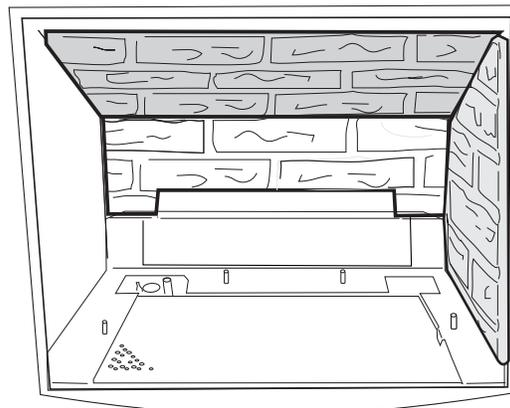

Figure 44. Install the Upper and Side Panels.
- 6. Install one of the Side Panels,** pushing it up against the firebox wall. Fig. 44
- 7. Position the Upper Panel.** You should seat the Upper Panel down and forward so that no gaps are evident at the panel joints, as in Fig. 44.